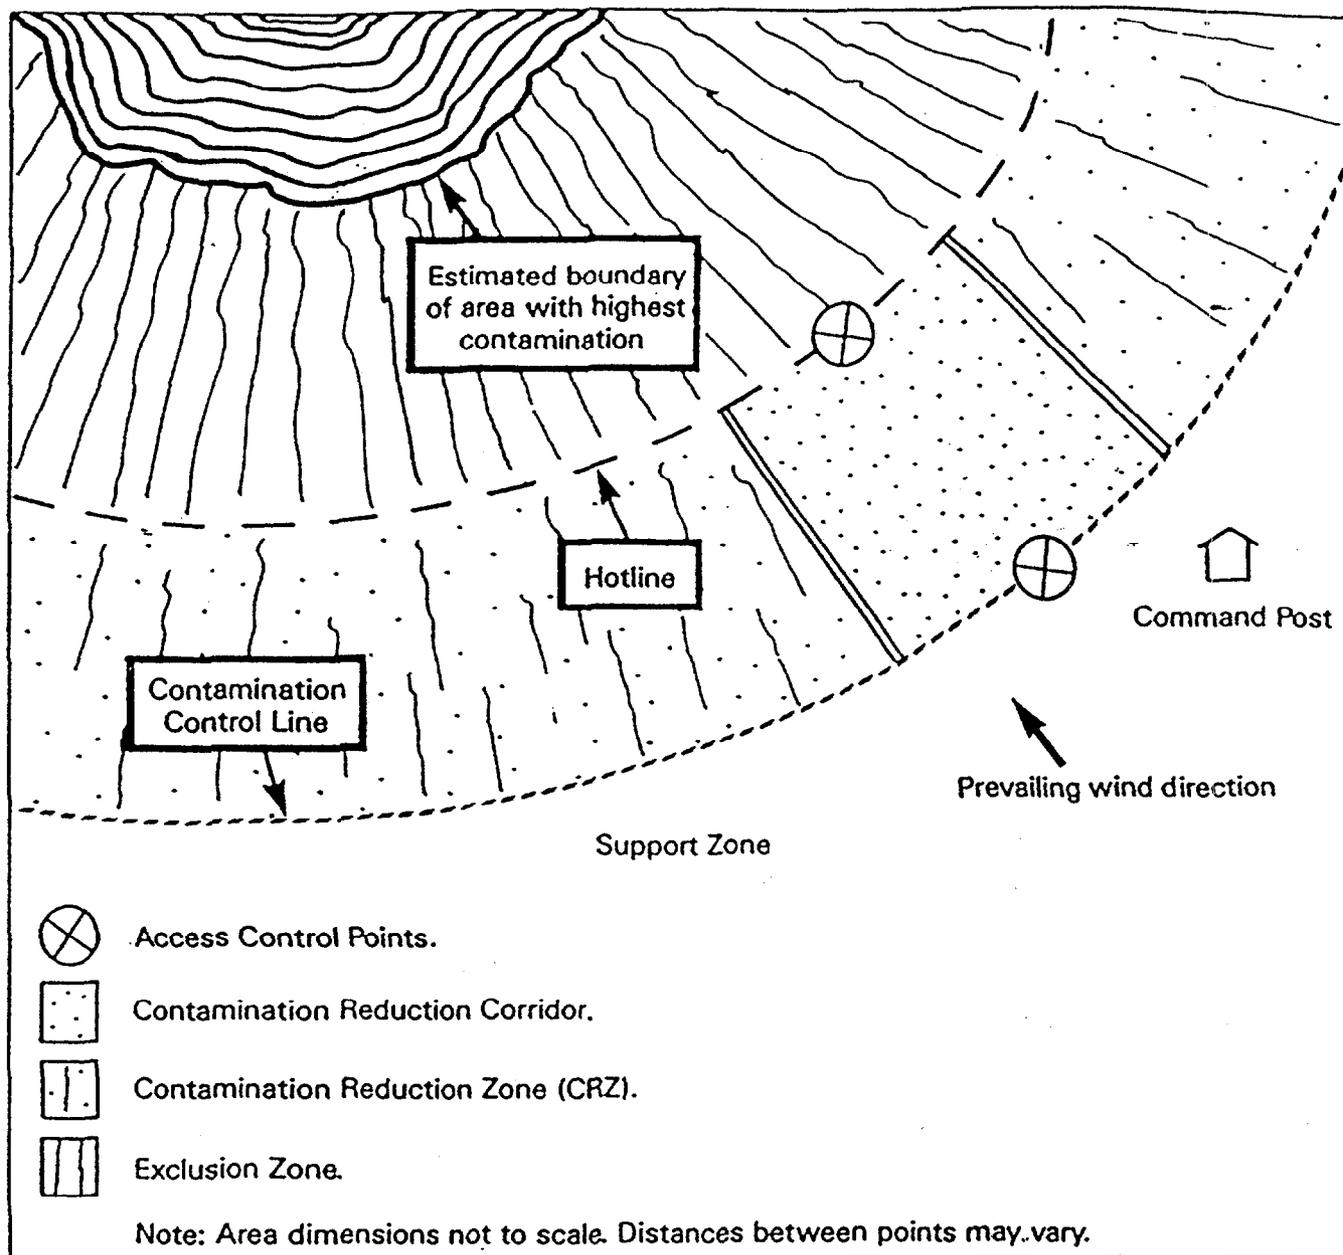

FIGURE 1
- CRZ - The area between the Work Zone and the Support Zone (located upwind of the Site Investigative Activities). Refer to Figure 1 for a "Typical Contamination Reduction Zone Layout."